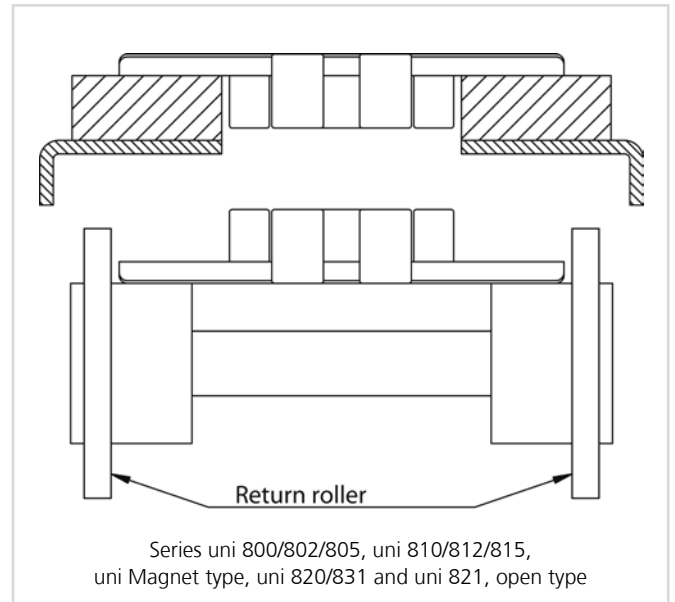

Figure 3-46
- Straight running chains can be supported with rollers on the return section. Figure 3-46.
- Often there are no returnways. Instead the chain runs freely or is supported by rolls or planes. Figure 3-46.